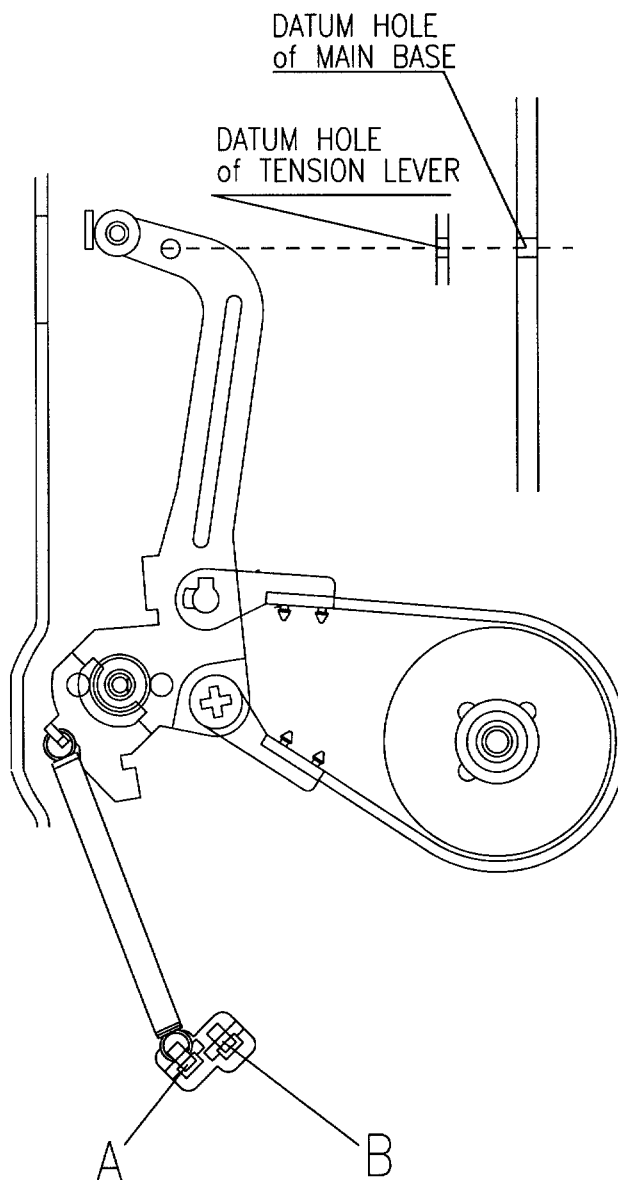

Fig. 7 Tension Pole Position Adjustment
4. If the result is not within the specification, remove cassette torque meter from the main base and adjust the tension spring. If the measured result exceeds the specification, locate the spring on the hook "A". If the value does not reach the specification, locate the spring on the hook "B" and repeat the steps 1-3 of "Tension Pole Position Adjustment". (Fig. 7)